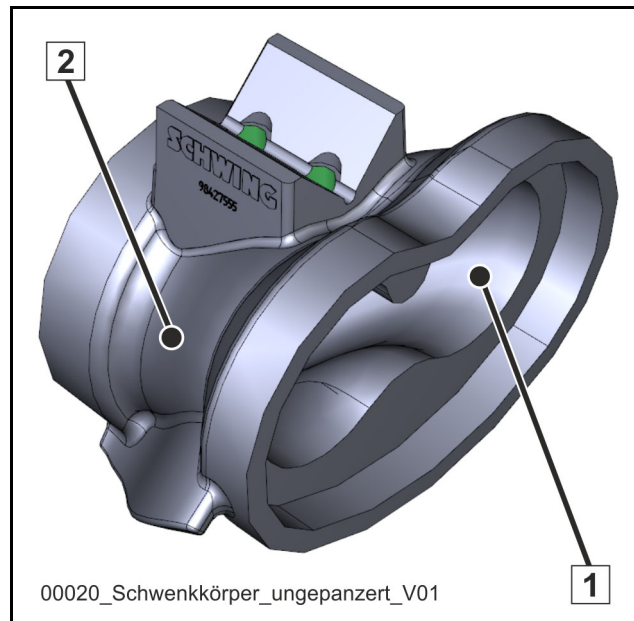

Fig. 335 Unarmoured swivel head (rock)
- unarmoured swivel head, see **(Fig. 335)**.
Caption (Fig. 335)